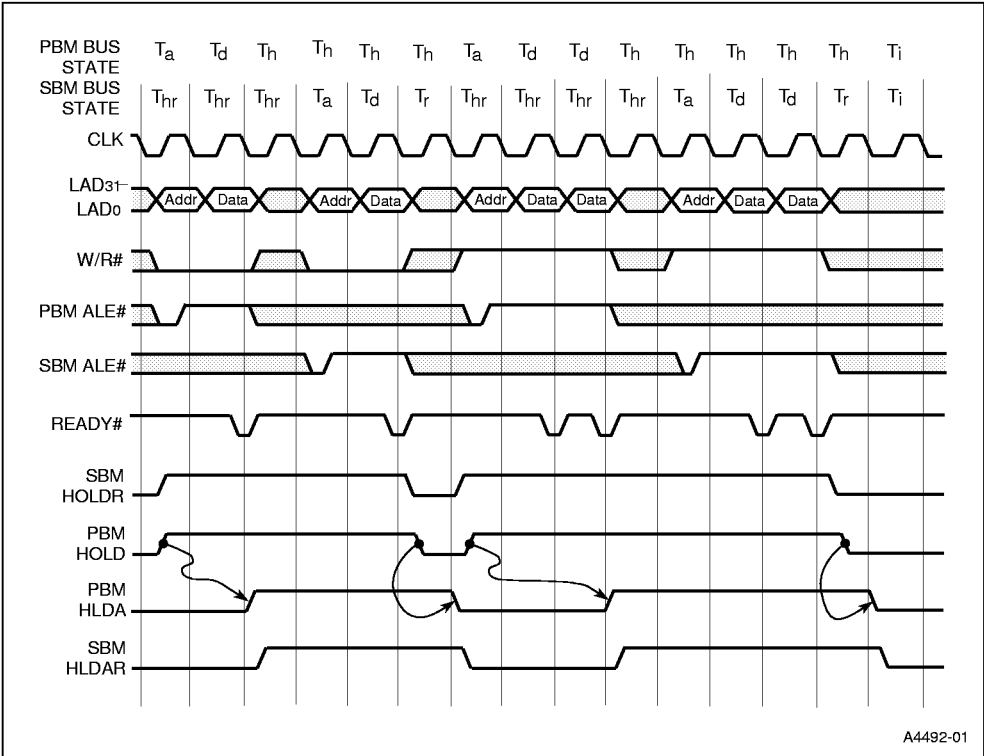

Figure 28. Bus Exchange Transaction (PBM = Primary Bus Master, SBM = Secondary Bus Master)
- Figure 28, Bus Exchange Transaction (PBM = Primary Bus Master, SBM = Secondary Bus Master) (pg. 35)